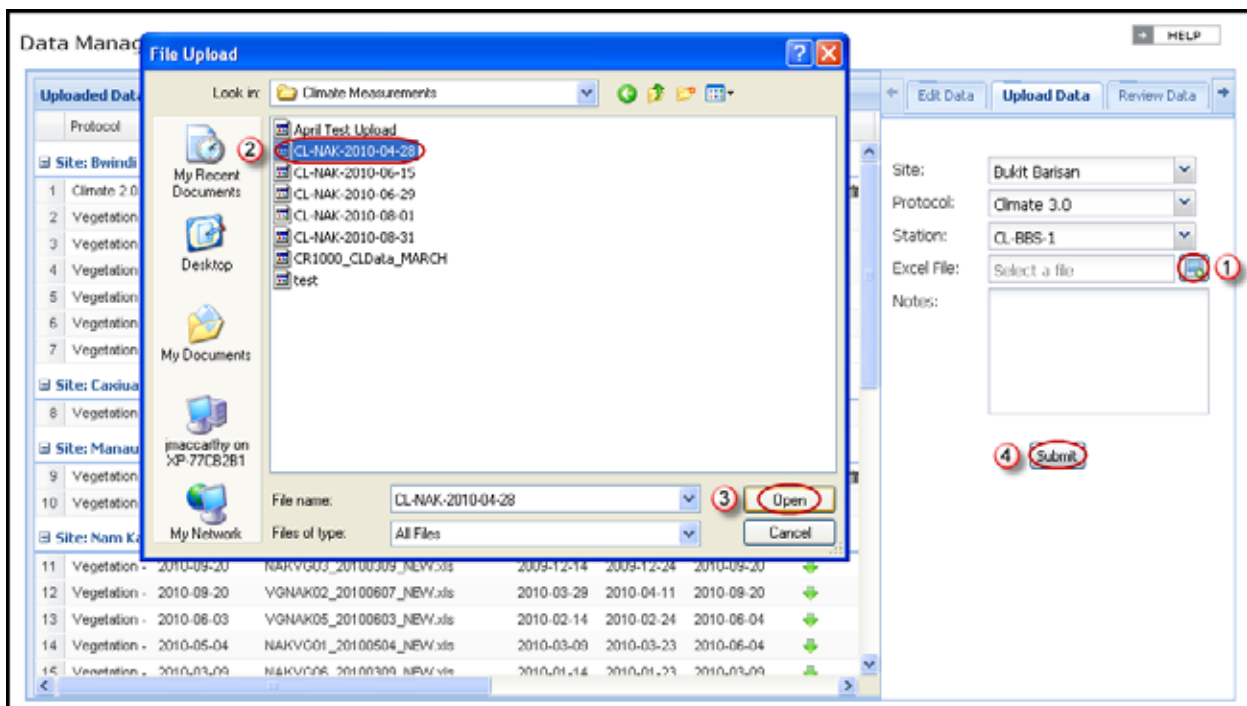

Figure 22. Screenshot demonstrating how to upload data in the "Upload Data" section of the Data Management Tool.
Note: Also, see **Step 9** in the Climate Data Management Tool Help (Appendix A.7) for more information and a detailed explanation of the uploading procedure. Figure 22 in Section 6.3.1 shows the process for uploading climate measurement data.
Note: Also, see **Step 9** in the Climate Data Management Tool Help (Appendix A.7) for more information and a detailed explanation of the uploading procedure. Figure 22 shows the process for uploading climate measurement data.
- d) Click on the **Upload Data** tab on the right side of the screen (use the arrows on the right side of the screen if "Upload Data" is not seen initially) and enter the requested information using the drop down menus and text fields. See Figure 22 below.